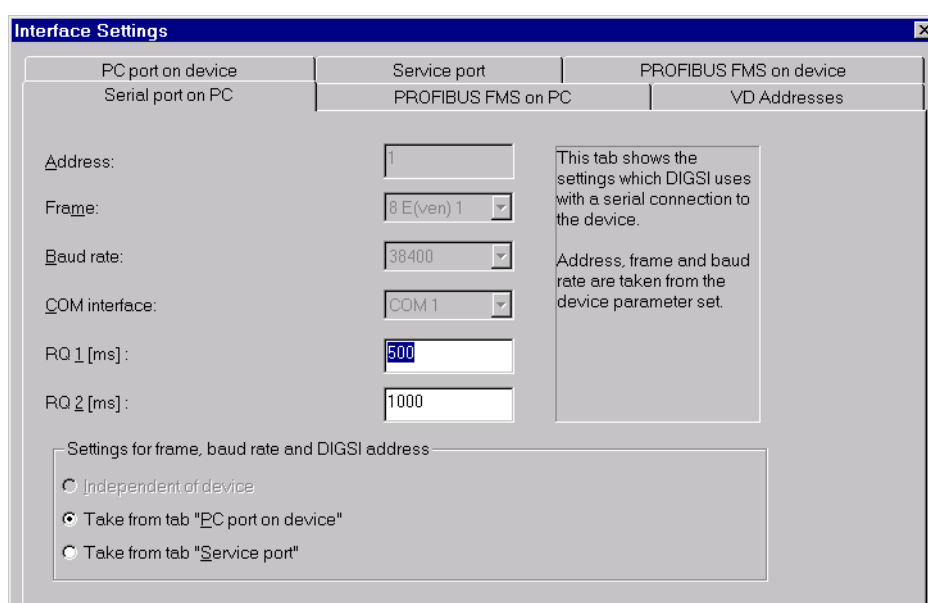

Figure 5-50 DIGSI® 4, Settings of the PC Interface
- Use dynamic symbols for breaker and switches (See Figure 5-50).
Configuration of these interfaces is performed using the DIGSI® 4 software program. After opening the device, the user should click on **Setting** in the navigation window and double-click in the data window on **Serial Ports**. Next the user should select the specific data in the resulting dialog box (Figure 5-50). The dialog box contains a varying number of tabs (depending on the capabilities of the PC and the protection device) with setting options for the interfaces.
In the first tab, the user should enter the communication port of the PC (**COM1**, **COM2**, etc.) which is connected to the 7SJ63 relay. Manual entry of settings for data format and baud rate can not be entered, since these values were taken from the “**PC port on device**” tab or the “**Service port**” tab (if present). In fact, many settings are read from DIGSI® 4 directly via the interface, and the corresponding setting fields are made inaccessible (see Figure 5-50). On the other hand, for those settings that must be entered by the user, the option **Independent of device** should be selected.